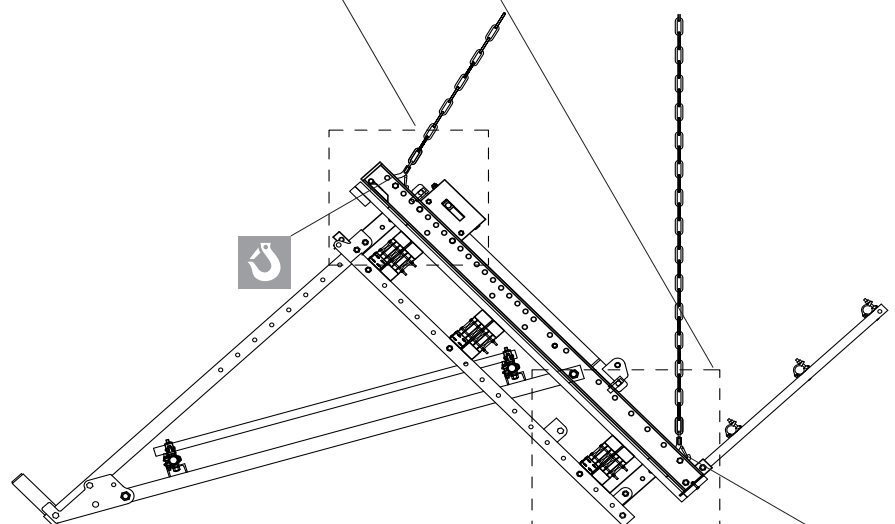

Fig. B1.18
3. Attach crane lifting gear to the Spacers M24-82. (Fig. B1.18)